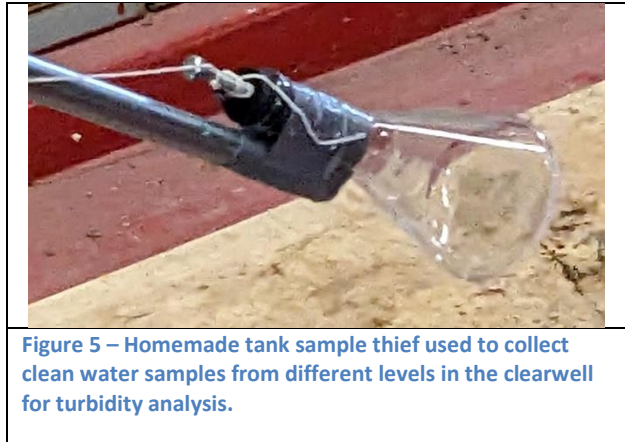
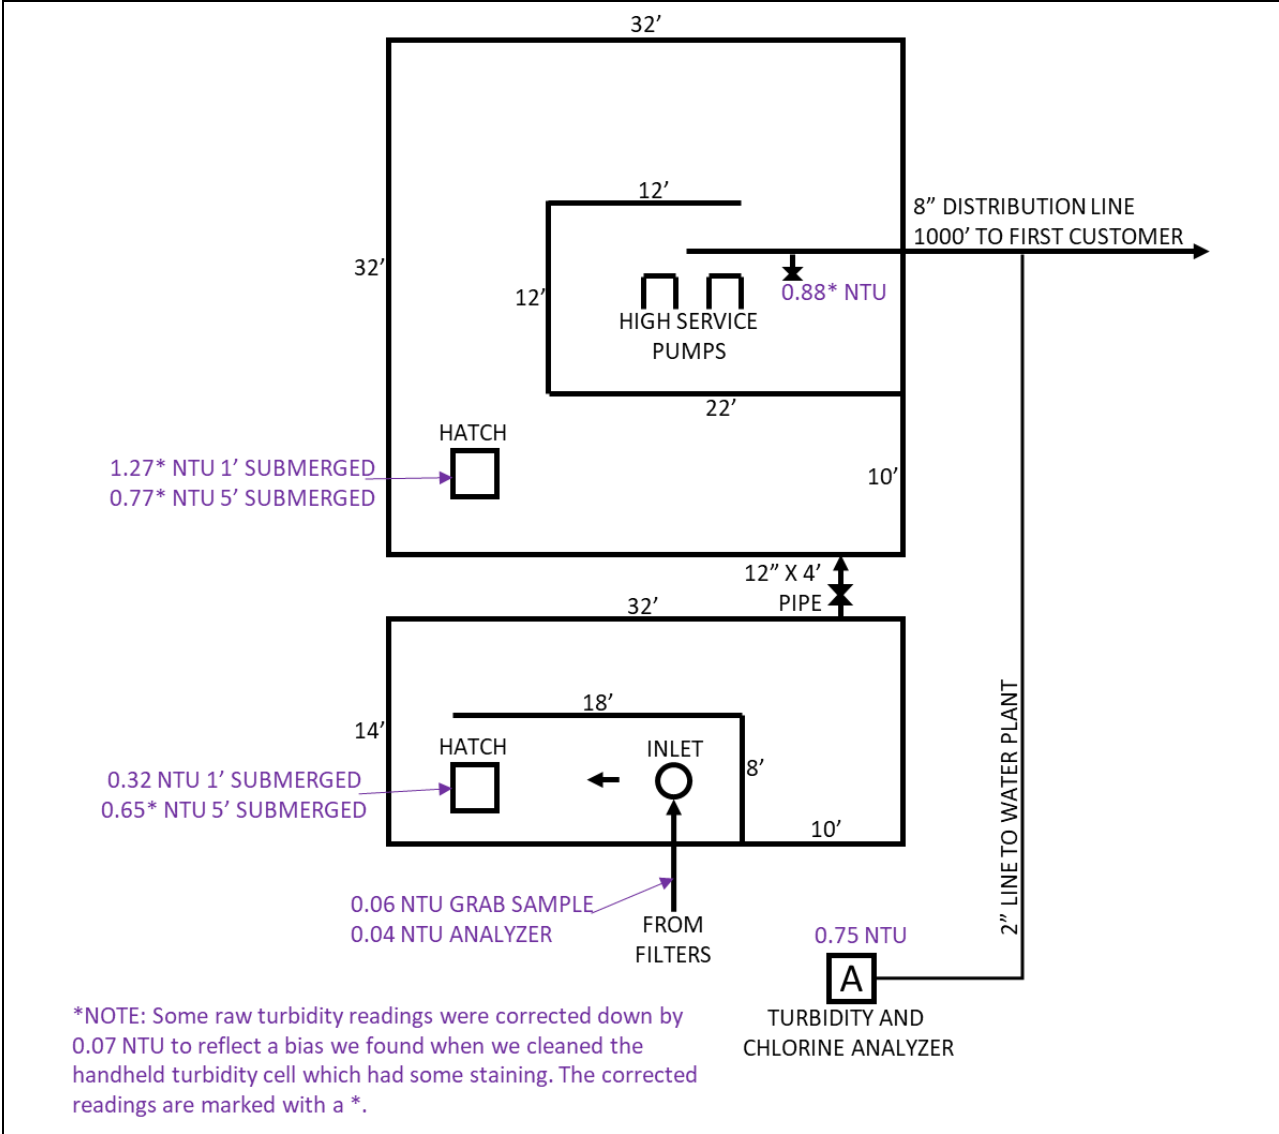

Figure 5 – Homemade tank sample thief used to collect clean water samples from different levels in the clearwell for turbidity analysis.
Figure 6 – Clearwell configuration showing turbidity sample results and a rapid increase in turbidity when the clean filtered water enters the clearwell.
- We used a homemade tank sample thief shown in Figure 5 to collect clean water samples from different levels in the clearwell for turbidity testing. Result of the testing are documented in Figure 6 and showed a significant increase in turbidity as the filter effluent at 0.04-0.06 NTU entered the first clearwell and increased to 0.32-0.65 NTU. The turbidity further increased to 0.77-1.27 NTU in the second clearwell. Turbidity at the distribution system point of entry was 0.75-0.88 NTU measured by the analyzer and with a grab sample on the discharge of the high service pumps. This data seemed to support the theory that some of the turbidity observed at the distribution entry is being picked up in the clearwells.